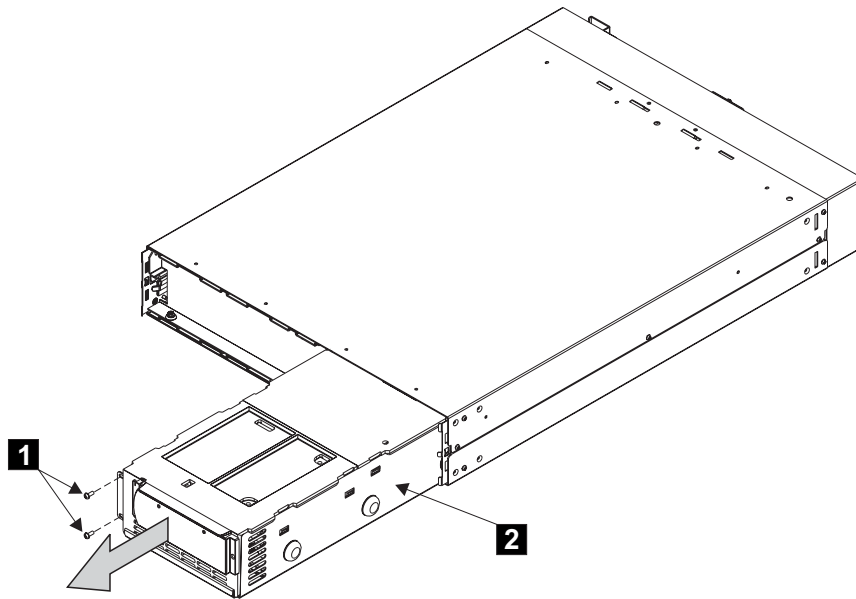

Figure 18. Removing the uninterruptible power supply electronics assembly
3. Remove the two screws **1**. See Figure 18 on page 44.
4. Pull the electronics assembly **2** out of the UPS 5125, and put it to one side. See Figure 18 on page 44.